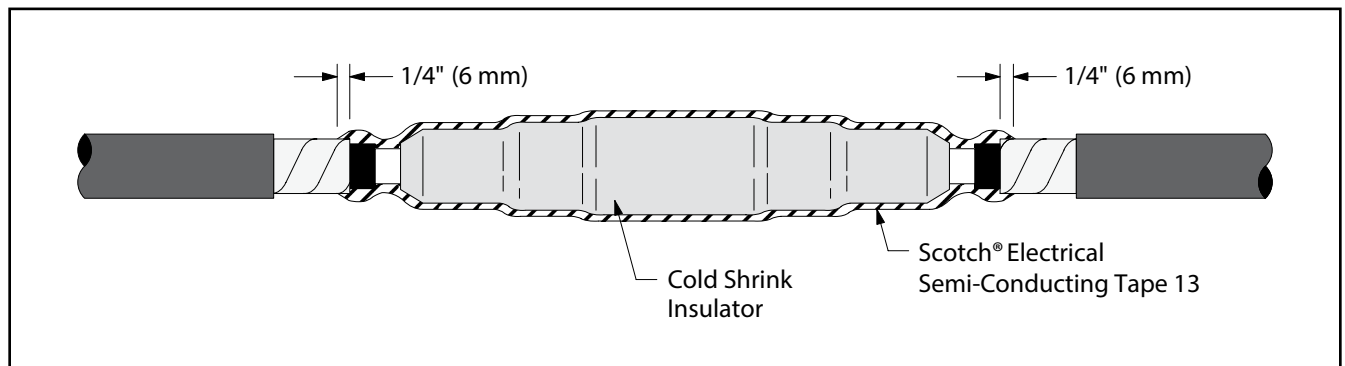

Figure 14
- a. Apply 1 half-lapped layer of 13 tape over insulation starting and ending 1/4" (6 mm) onto cable's metallic shielding (Figure 14).